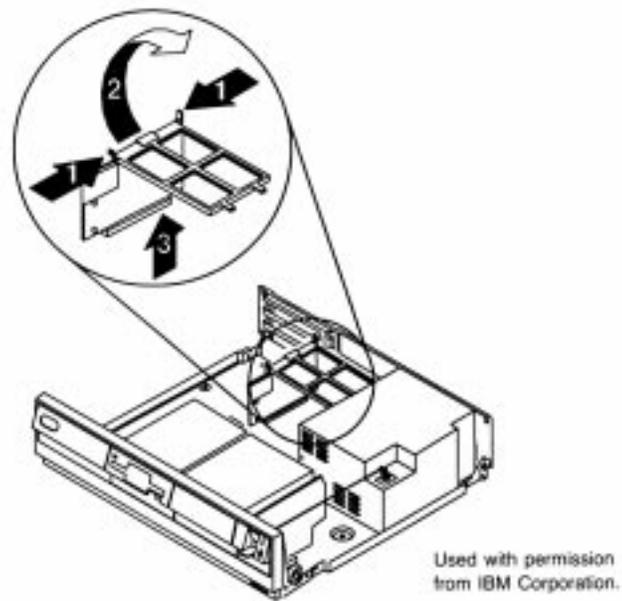

Fig. 3.23
3. Lift up and remove the bus adapter (see fig. 3.23).